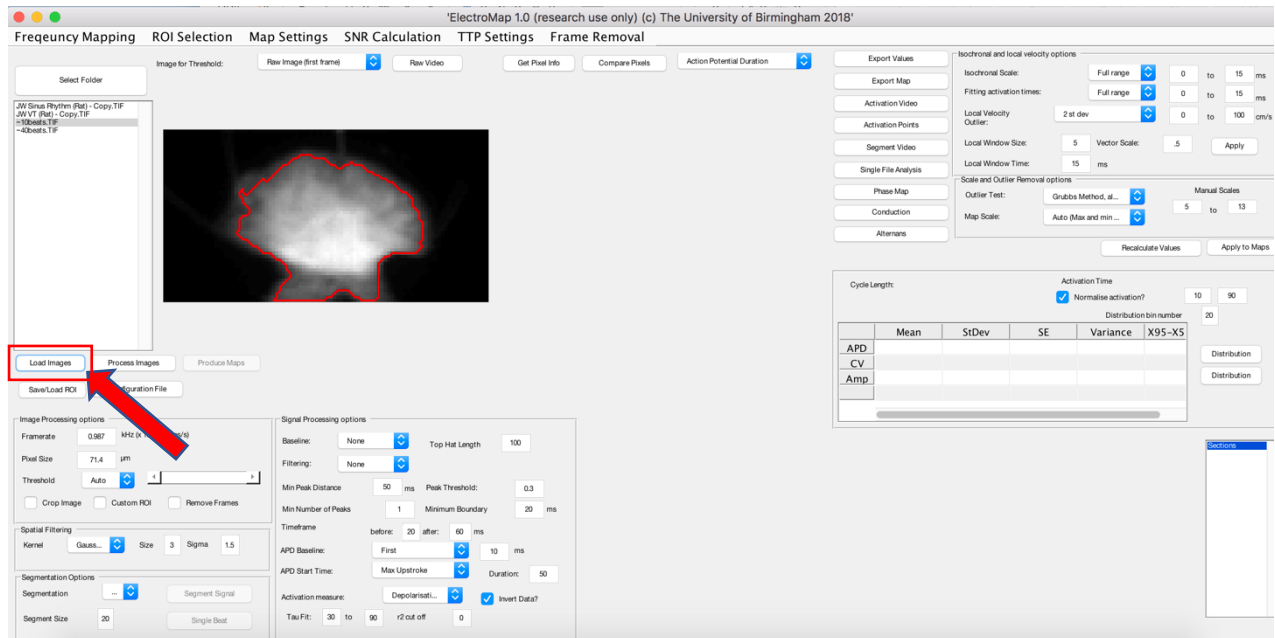

Figure 3. “Load Images” button highlighted in red.
- Select the data file (file will highlight in grey) and press “Load Images” button, this will load the image into the ElectroMap, see Figure 3.